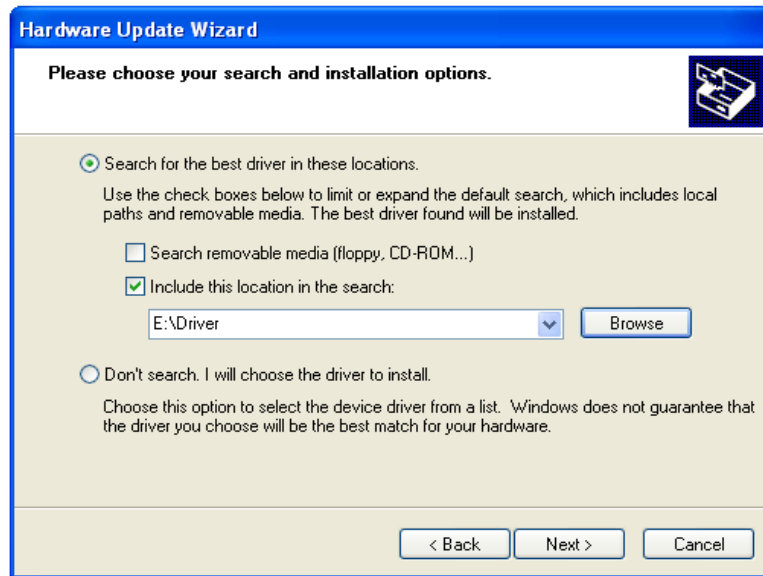

Fig. 45
- Select "Search for the best driver in these locations" and enter the file path in the combo-box to the "Driver" folder in your "TuneLa" distribution or browse to it by clicking the "Browse" button. Once the file path has been entered in the box, click "Next" to proceed (**Fig. 45**).